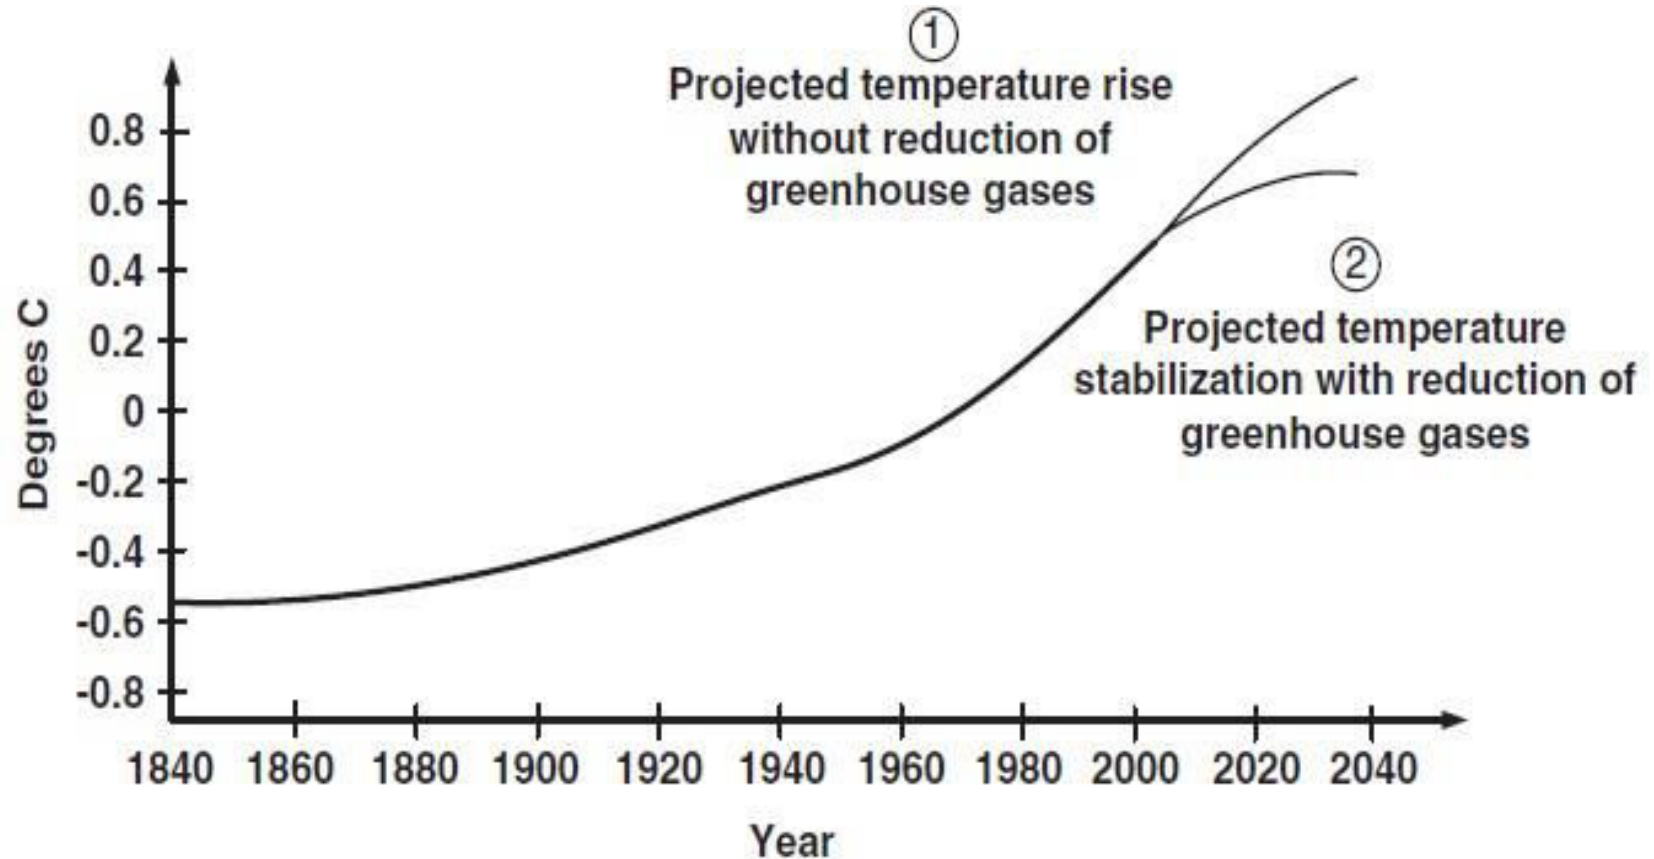

Figure 1.12 The Smooth Average of Published Records of Surface Temperature from 1840–2000.²⁰
- Figure 1.12 shows the mean smooth recorded temperature by the United Nations Environment Programme (UNEP). As more countries such as China, India, Brazil, Indonesia, and others modernize their economy, the rate of CO₂ production will accelerate.
- We can only hope that we can stop the trend of global warming as presented in Fig. 1.12.